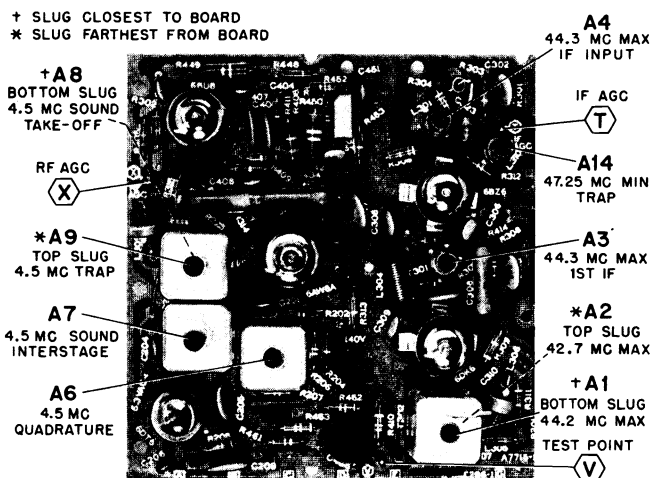

Figure 23. Top View of Etched Circuit Board 14E286-1 Showing Test Point Locations and IF Alignment Data.
- Connect negative of 3 volt bias supply through 10K resistor to test point "T" (IF AGC) and "X" (RF AGC), see figure 23. Connect positive to chassis.
2. Select the strongest TV station received. Adjust set for normal operation. See figure 23 for adjustment locations.